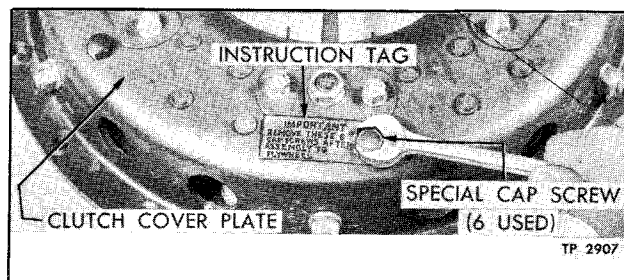

Figure 12—Clutch Instruction Tag and Special Cap Screws
1. Put driven disk (41) in place against flywheel (32) with short end of splined hub toward flywheel. Use aligning arbor (CS-1915-A) or old clutch shaft to hold assembly in position.
2. Place clutch assembly in position against flywheel and install cap screws (29) using new lock washers. Tighten screws securely.
3. Remove special cap screws (fig. 12) previously installed to facilitate clutch installation. These screws must be removed before clutch will engage.
4. Adjust nuts (11) on yokes (10) so that contact points of release lever buttons (14) are within
3. When insulating washers (28) and springs (27) are in position, set cover (25) over springs (27), fitting each spring guide (26) on cover into corresponding spring. Cover must assume original position in relation to pressure plate. Refer to alignment marks made at disassembly to determine correct position. Drive blocks (4) must enter slots in pressure plate.
4. Install six special cap screws (fig. 12) through holes in cover plate, starting each screw into tapped hole in pressure plate, then tighten special screws alternately and in gradual stages to compress springs (27) and bring threaded ends of yokes (10) into respective holes in cover plate. A pointed rod may be used to guide yokes through holes as cap screws are tightened. See that ends of springs (12) do not catch on under side of cover as special screws are tightened.
5. Thread adjusting nuts (11) onto yokes (10) so that end of yoke is approximately flush with top of nut.
6. Install adjusting nut thrust plates (48), tightening plate retaining nuts firmly.
7. Clutch assembly is now completely built up and ready to be assembled to flywheel. Special cap screws must remain in place until cover to flywheel screws have all been installed, then they must be removed to allow clutch springs (27) to operate.